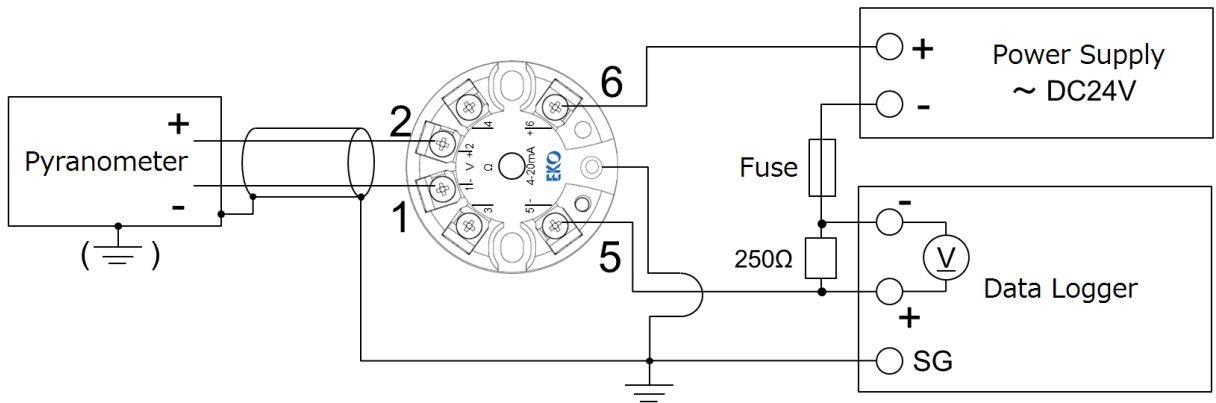

Figure 5-3. Wiring (when using voltmeter)
- Using Voltmeter: As shown on Figure 5-3, insert shunt resistance to the 4-20mA current loop circuit and measure the voltage at both ends of resistance. When 250Ω shunt resistance value for example is inserted, 4-20mA is converted into 1-5V. Prepare shunt resistance according to the measurement range of voltmeter to be used. Moreover, voltage decreases by inserting shunt resistance; please keep this in mind when selecting power supply voltage.
When using measuring device with voltage input (Shunt resistance is required(Figure 5-3):